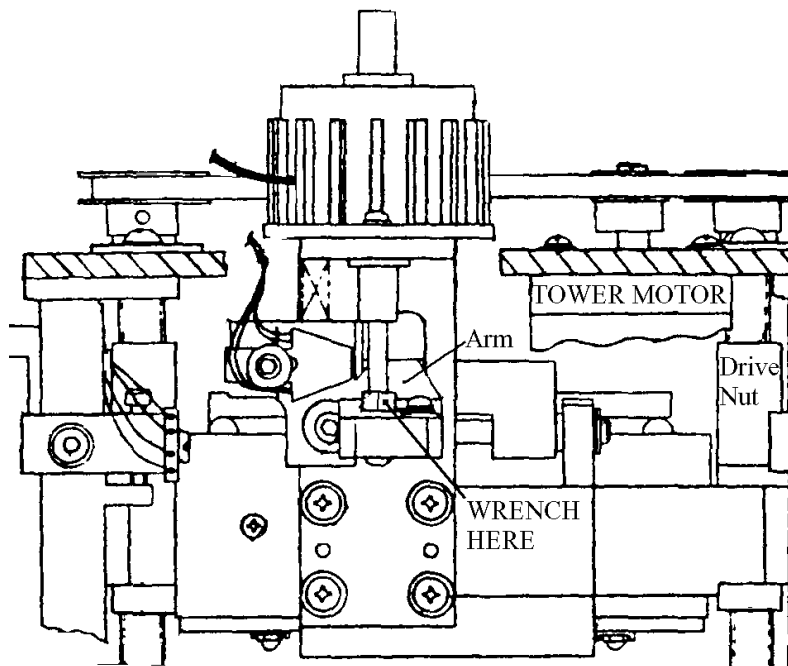

Figure 5-5 Pump Motor Location
9. Install the Tray Drive Engagement Tool (P/N 371195-1) so that the dowel pin is protruding through the top of the slot on the Gear Plate, and the bar is resting on the top of the Assembly's Pivot Screw (see Figure 5-5).
3. Loosen the two Phillips screws holding the Pump Motor. **Do not remove the screws** (see Figure 5-5).
4. Loosen the Tower Drive Motor and remove the Tower Drive Belt (see Figure 5-5).